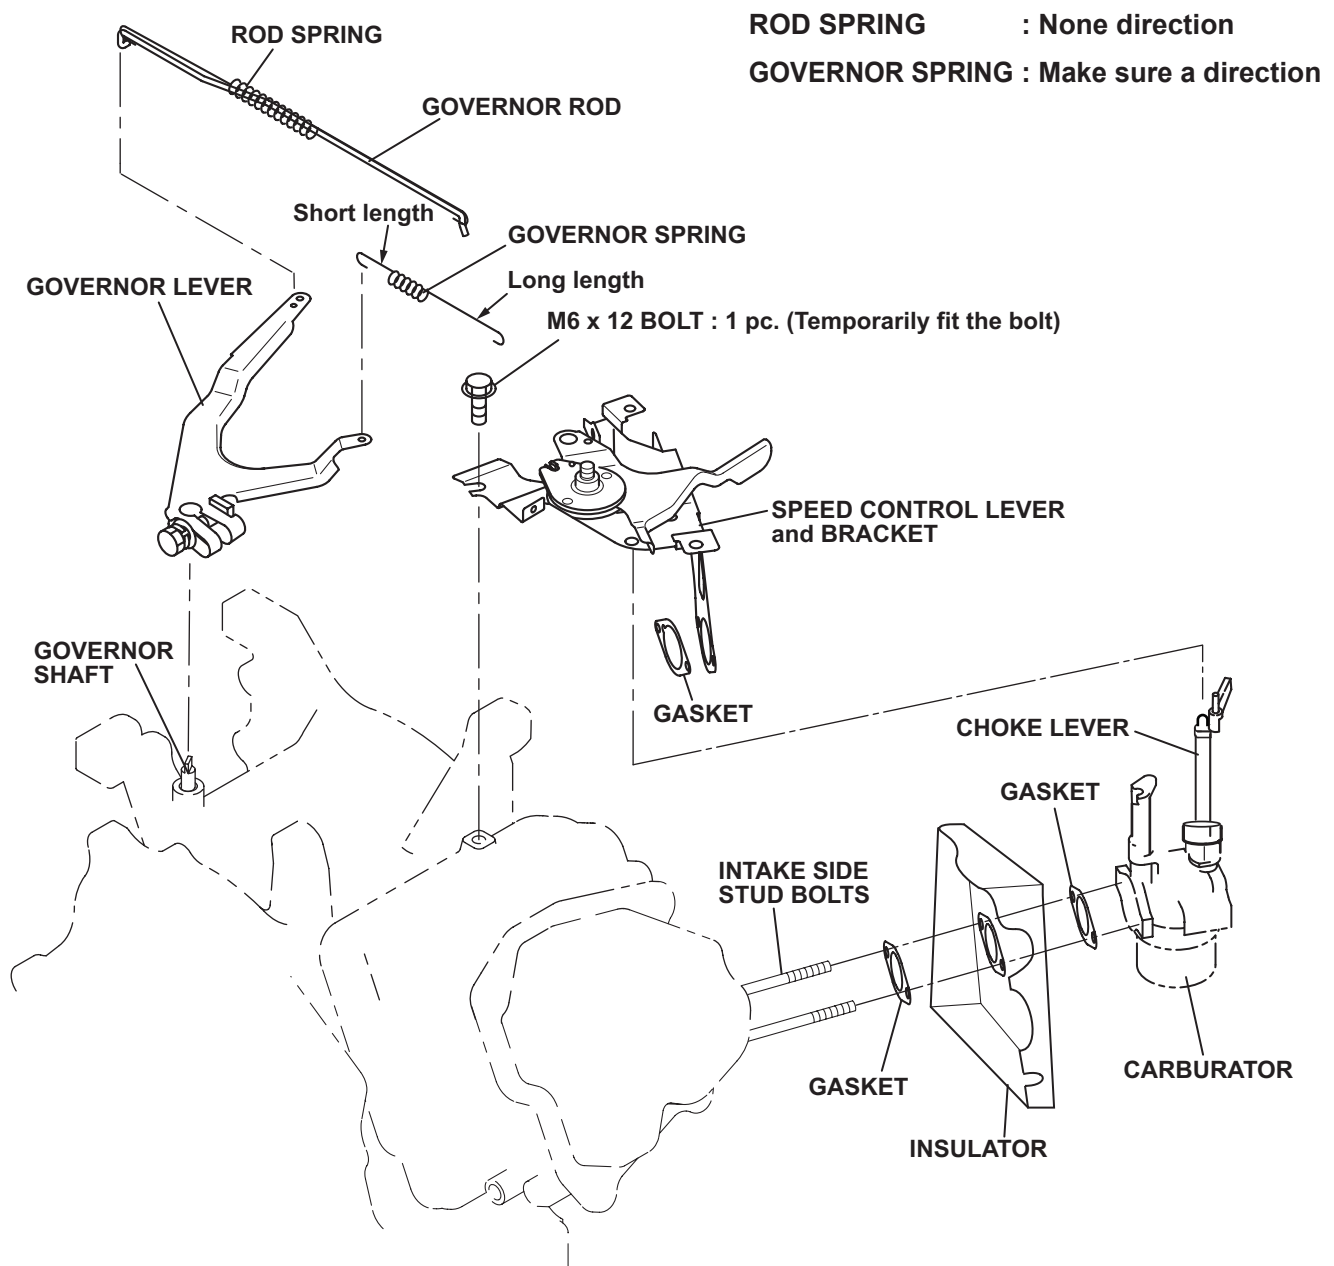

Fig.5-58
(21) CARBURATOR
(22) GOVERNOR LEVER (See Fig.5-58, 59)
(23) SPEED CONTROL LEVER and BRACKET (See Fig.5-58, 59)
Tighten the bolt which is temporarily fit. (Fig.5-58)